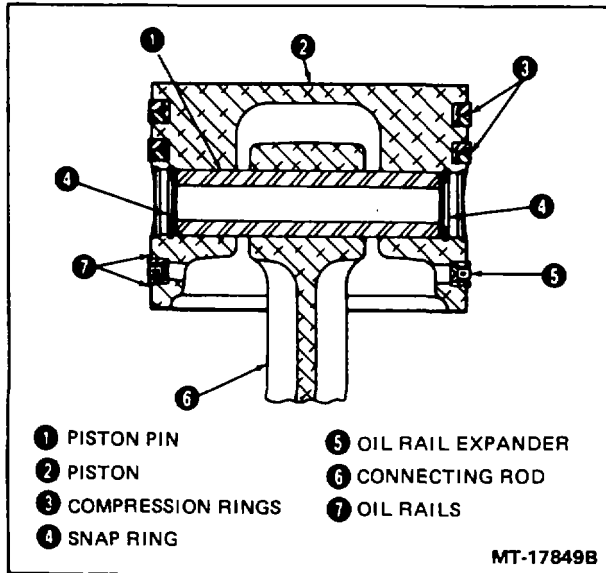

Figure 7 - Cross Section of Piston Assembly
4. Remove piston pin snap rings from piston assembly and press piston pin out of piston and connecting rod. Then remove compression and oil rings from piston using conventional piston ring expander. Refer to Figure 7.
1. Position connecting rod in piston; then press piston pin in place. Install snap rings in piston at both ends of piston pin (Figure 7).
2. Install two compression rings in each of the two grooves and two oil rails and expander in bottom groove (Figure 7).